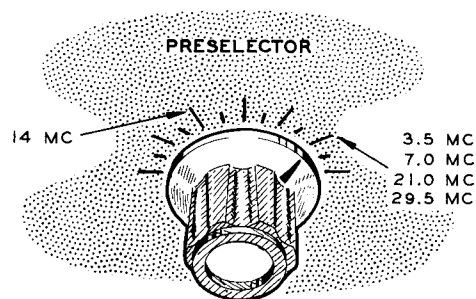

Figure 5
- ( ) Place the PRESELECTOR knob in the position indicated in Figure 5 for the band being aligned.